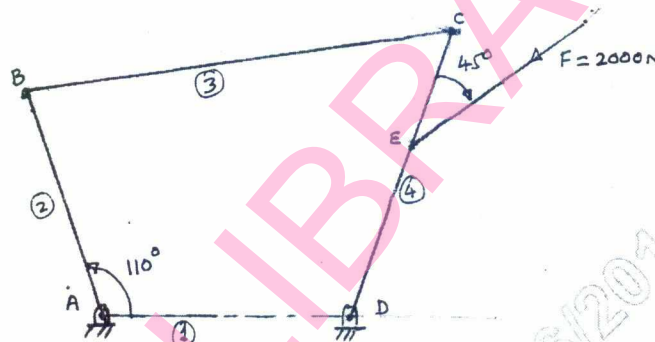

Fig.Q1(b)
- b. A four bar mechanism shown in Fig.Q1(b) is acted by a force  $F = 2000$  N. Calculate the required torque on link AB ( $T_2$ ) for equilibrium of the mechanism. Given  $AB = 200$  mm,  $BC = 370$  mm,  $DC = 250$  mm,  $AD = 215$  mm,  $CE = 100$  mm,  $\angle DAB = 110^\circ$ ,  $\angle CEF = 45^\circ$ . (14 Marks)